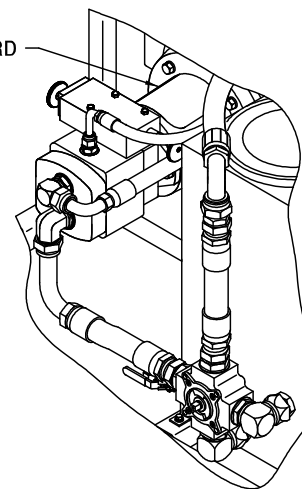

FIGURE 5.4.1
- a. Remove the pump/motor coupling guard. Reference **Figure 5.4.1 – Pump/Motor Coupling Access**.